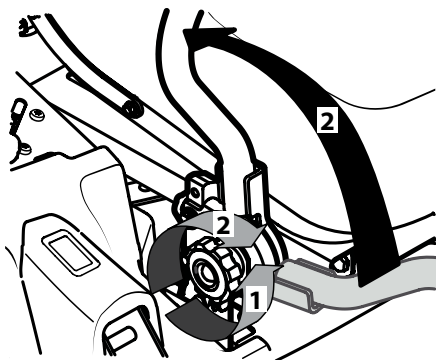

Figure 2-4
1. Loosen the control lever knobs on the side of the drive control levers. See Figure 2-4.
2. Lift and swing that control lever upward into the desired position and secure in place by tightening the control lever knob. See Figure 2-4.